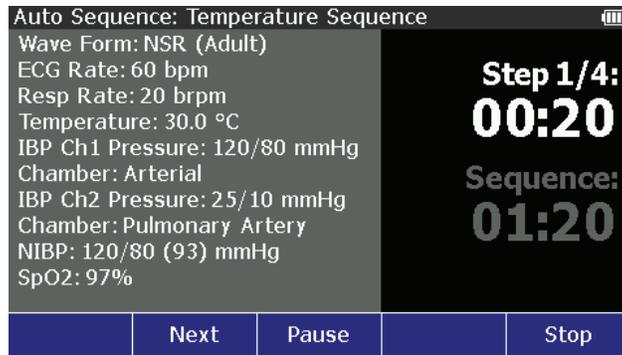

Figure 51. Autosequence Step Screen
5. Push the **Start** softkey. The autosequence screen in Figure 51 shows in the display.